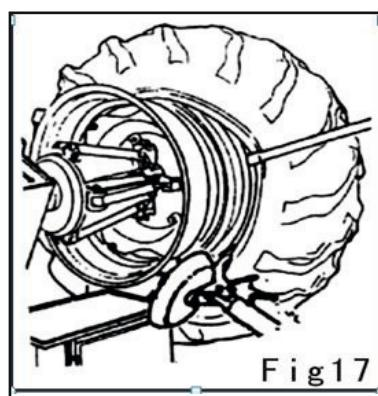

Fig 17
- 13) On the right side of the nose tool, plug the rod in between the rim and the edge of the wheel. **Fig 17**